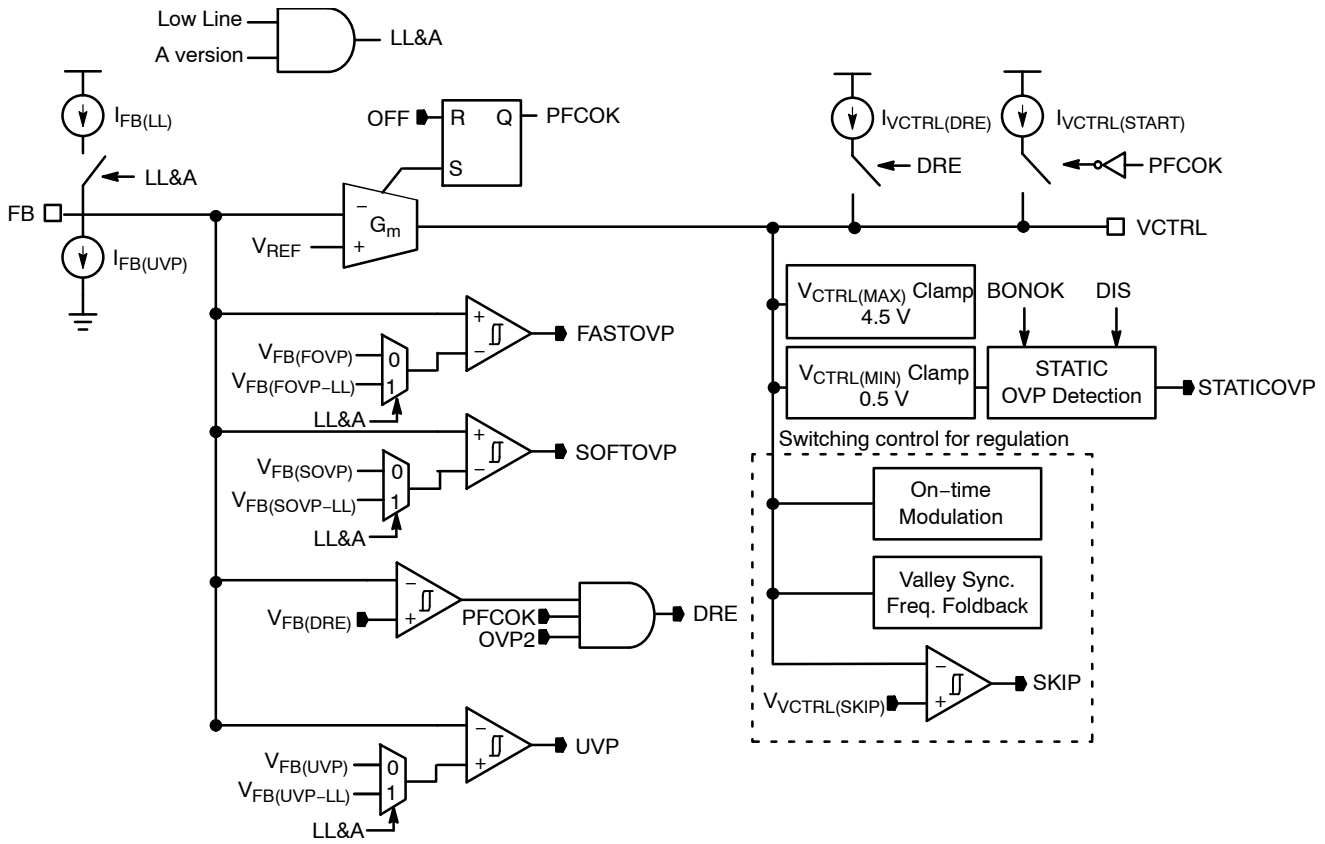
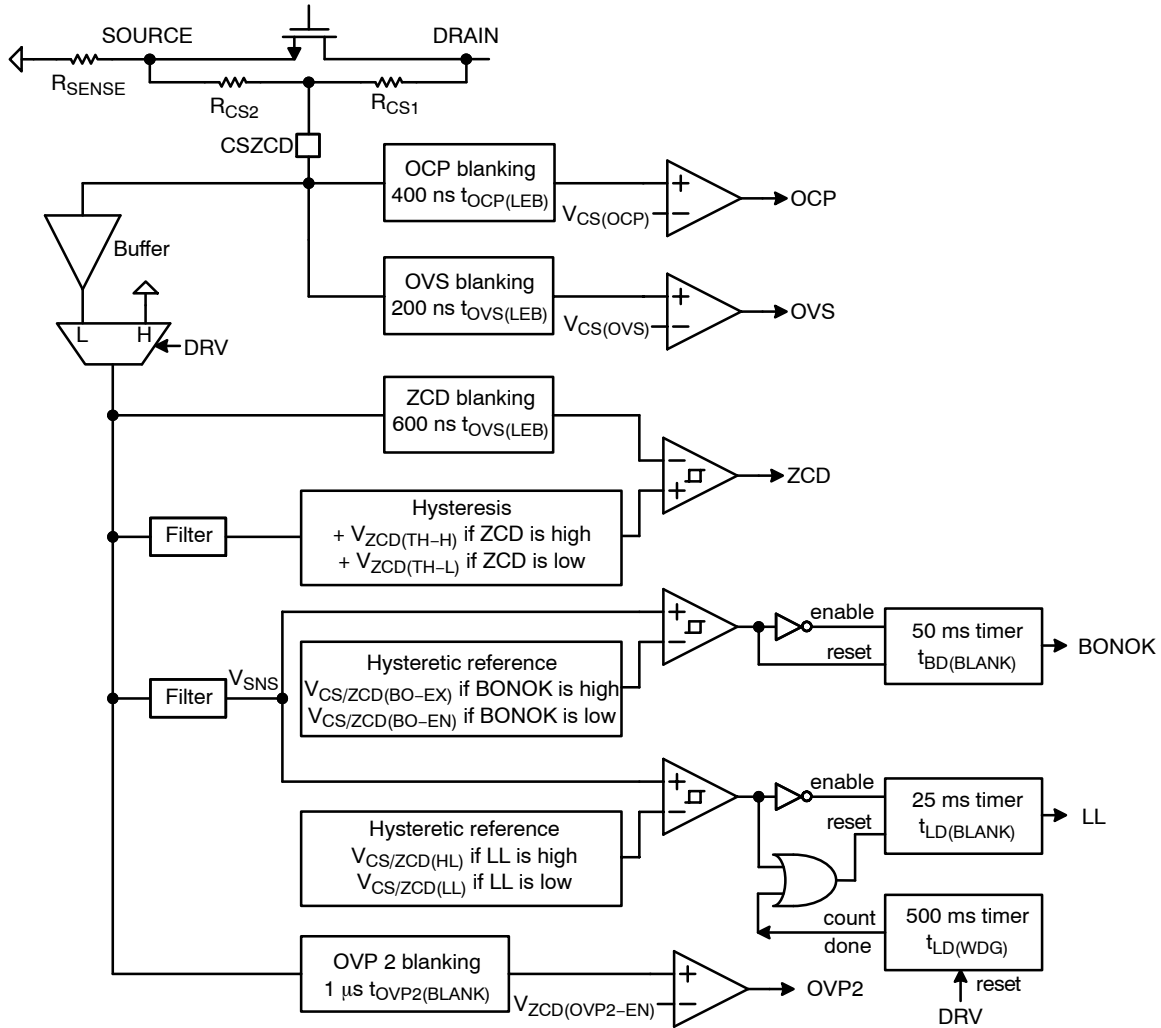

Figure 6. Feedback Regulation and Transient Control
Figure 7. CS/ZCD Internal Circuit Block
A trans-conductance error amplifier (OTA) with access to the inverting input and output is provided as shown in Figure 6. It features a FB reference voltage for output voltage regulation of 2.5 V, a typical trans-conductance gain of 200 μS and a maximum capability of about $\pm 20 \mu\text{A}$ OTA output current. The VCTRL pin is the output of the error amplifier for external loop compensation. Typically, a type-2 network is applied between the VCTRL pin and ground to set the regulation bandwidth below about 20 Hz. VCTRL basically controls turn-on time, dead time in VSFF, skip mode and STATICOVF:
The NCP1623 embeds a “Dynamic Response Enhancer” (DRE) that deals with the under-shoots of the output voltage at abrupt increases of the load current. An internal comparator monitors the FB pin and when this voltage is lower than $95.5\% V_{REF}$, a $200 \mu A$ $I_{VCTRL(DRE)}$ is sourced to speed up the charge of the compensation network as shown in Figure 6. Effectively this appears as a 10x increase in the loop gain. DRE is disabled during the start-up sequence until the PFC stage has stabilized and PFCOK is high. DRE is also disabled when the OVP2 (Second Over Voltage Protection) is triggered.
In case of output over-shoots, soft OVP is firstly triggered by comparing FB voltage and a soft OVP threshold, $V_{FB(SOVP)}$ as in Figure 6. Once the soft OVP is triggered, the turn-on time is gradually decreased in 4 to 5 switching periods to smoothly reduce powering. If FB voltage is even
As illustrated in Figure 7, the CS/ZCD pin provides the input signal for the following functions:
low-line (LL) detection is set longer than a half-line cycle but not that long to quickly detects an abrupt line transient from high to low. When the line changes from low to high and V_{SNS} is over $V_{CS/ZCD(HL)}$, high line mode is immediately entered. When high-line is detected (that is, when signal “LL” of Figure 7 is low), the loop gain, $t_{ON} / (V_{CTRL} - V_{CTRL(MIN)}) \mu s/V$, is divided by about 2.5 to ensure a 2-level feedforward.
As shown in Figure 7, when V_{SNS} is lower than the brown-out enter voltage ($V_{CS/ZCD(BO-EN)}$) for BO blanking time (50 ms $t_{BO(BLANK)}$), BONOK signal is high and the drive is not immediately disabled. Instead, a 30 μA current source ($I_{VCTRL(BO)}$) gradually reduces V_{CTRL} . As a result, the circuit keeps generating DRV pulses until the STATICOVV trips (that is when V_{CTRL} reaches the minimum clamp level, 0.5 V $V_{CTRL(MIN)}$ as shown in Figure 6). This method relieves the risk of input voltage bouncing the fault line detection caused by EMI filter oscillation from an abrupt DRV stop.
Similar to power reducing sequence in brown-out, the drive is not immediately disabled and 30 μA current source gradually reduces V_{CTRL} until the STATICOVV function trips in Figure 6. The DIS sleep mode is maintained until the DIS pin is externally pulled down below the DIS sleep mode exit voltage ($V_{DIS(EX)}$, 0.8 V minimum).